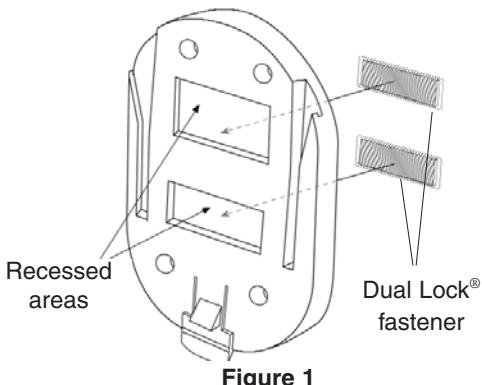

Figure 1
3. Line up the piece of Dual Lock® fastener on the headboard with the two pieces on the bracket (Figure 1). Fasten them together by firmly pressing. You will hear a "click" when the Dual Lock® fastener is properly mounted.